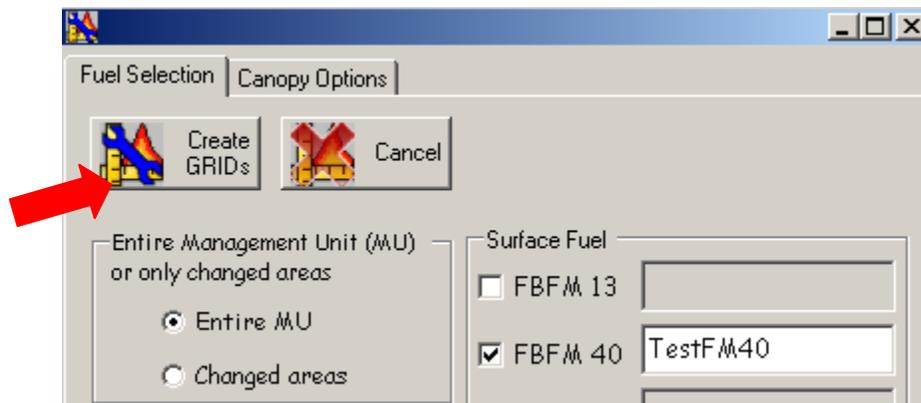

Figure 6-22. Click **Create GRIDs** when finished.
- After you have finished making your selections, click **Create GRIDs** at the top left corner of the screen (fig. 6-22).